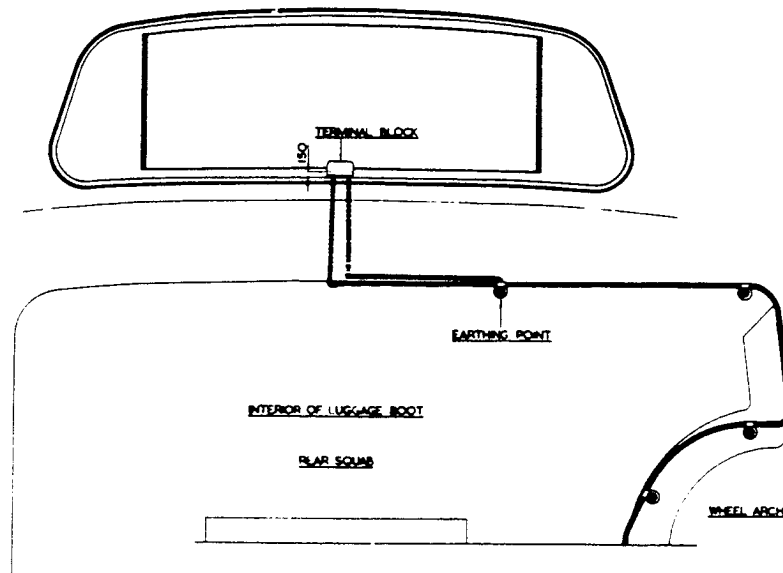

FIG.2
- (vi) Anchor the cable to the squab screws following the line of the boot as shown in Fig.2 and enclosing the cable in P.V.C. tube.
- (vii) Drill two $.218$ " dia. (5.5 mm) holes one on each side of the centre line, 1" between centres, through the rearmost sloping portion of the parcel shelf. Stick the terminal block to the rear window with Durafix symmetrically across the centre line and approximately $.150$ " (3.01 mm) above the top edge of the wooden finisher. When secure attach the demister terminals and the feed wire. Connect a short earthing cable from the terminal block to the centre screw on the top of the rear squab (Fig.2).